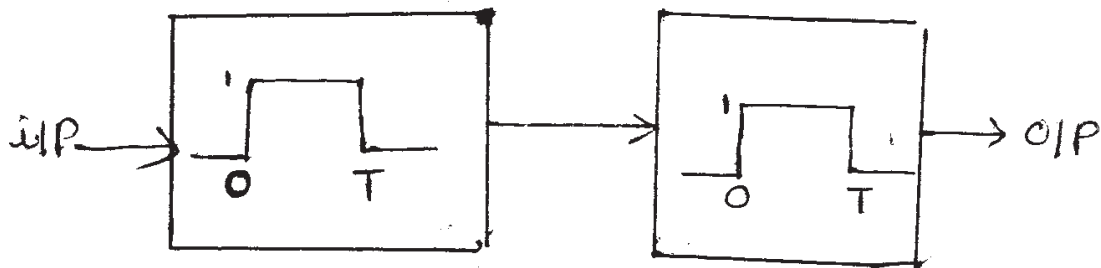

figure 1
**Q1)** Evaluate the overall impulse response and obtain the time-BW product for two systems connected in cascade. (Refer to figure 1). **[16]**